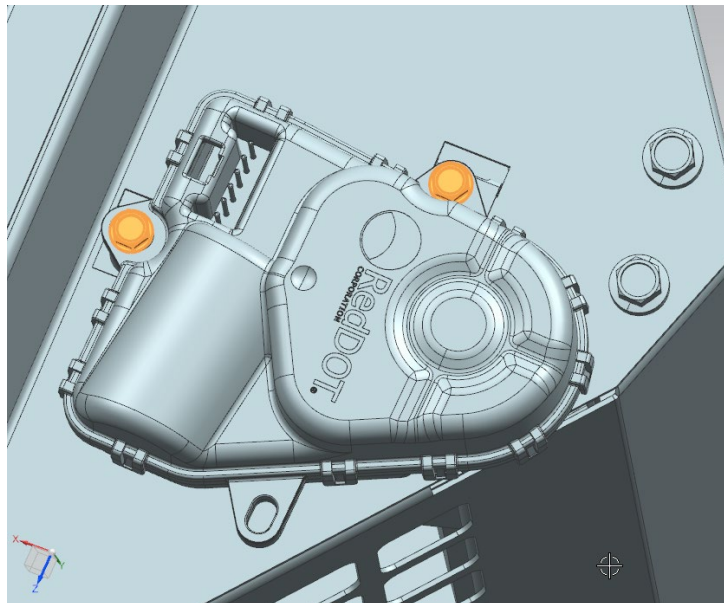

Fig. 2, Actuator Hexhead Screws
4. Remove the two hexhead screws shown in **Fig. 2** and remove the actuator from the HVAC unit.